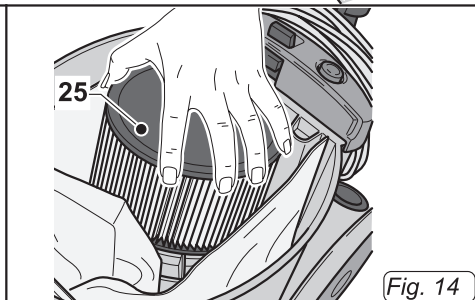

Fig. 14
- The filter cartridge (25 Fig. 14) is pressed into a special support. In order to remove it, it must be lifted up.